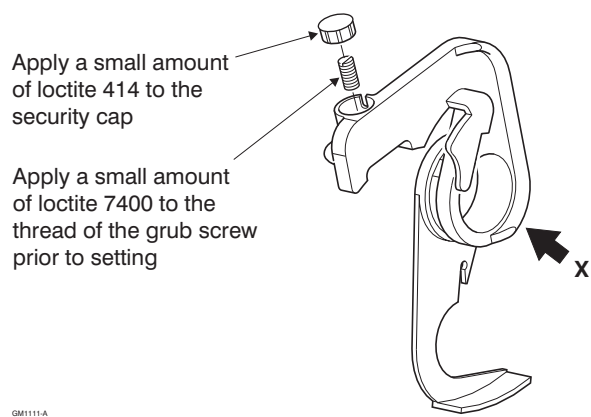

Figure A.3 Size Sensor Flag: general details
- a. If the pump indicates that a 20 ml gauge is fitted, complete steps (2) to (5).
- b. If no indications are given, complete steps (6) to (8).
4. At position X (see *Figure A.3 Size Sensor Flag, general details*), alternately press and release the SSF several times and ensure that when the SSF returns to its rest position, it **always** displays that a 20 ml syringe is present.
7. At position X (see *Figure A.3 Size Sensor Flag, general details*), alternately press and release the SSF several times and ensure that when the SSF returns to its rest position, it **always** displays that a 20 ml syringe is present.